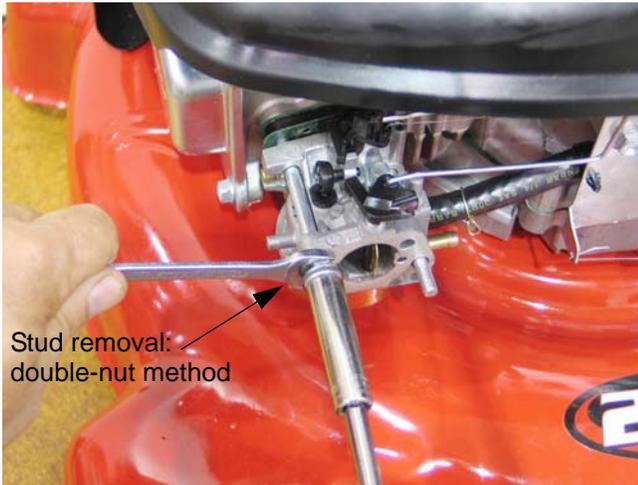

Figure 3.12
- 2b. Double-nut the studs for removal, with a washer between the serrated faces of the nuts. See Figure 3.12.